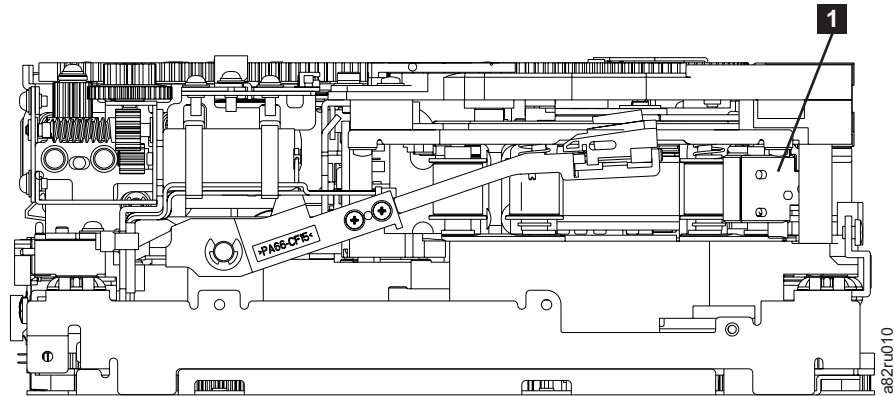

Figure 175. Leader Block Assembly (LBA)
- \_\_\_ 9. Rotate the threader motor worm gear ( **4** in Figure 174 on page 288) to turn the threader mechanism gear ( **6** in Figure 174 on page 288) counterclockwise. This moves the LBA out of the cartridge and past the read/write head. Stop this rotation when the LBA is near the tape guide roller nearest the rear of the drive shown as **1** Figure 175.